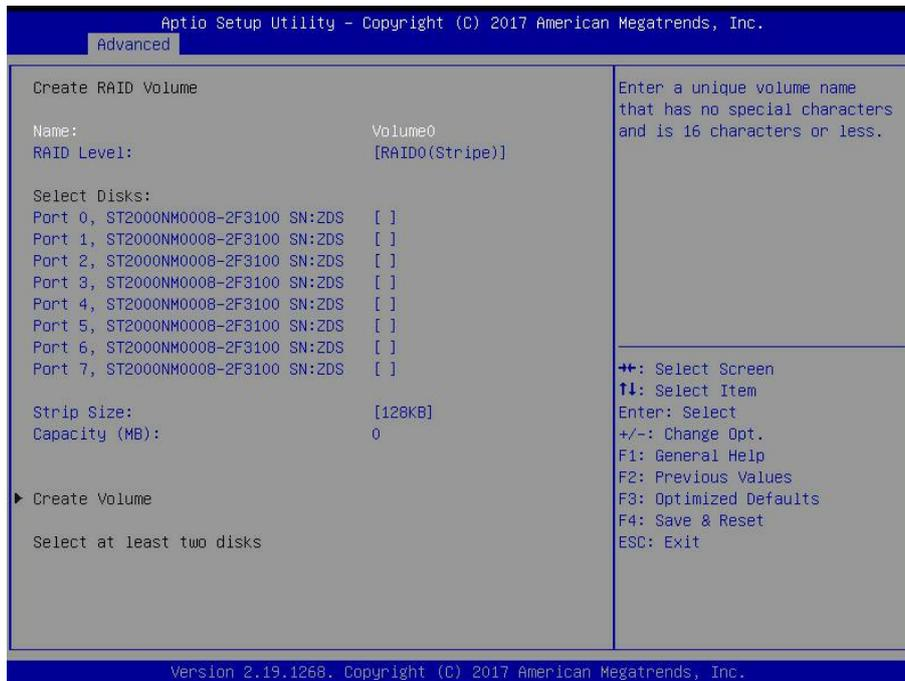

Fig.6.5
b) Change the name of RAID to be created. Note it cannot contain special characters. As shown in Fig. 6.5